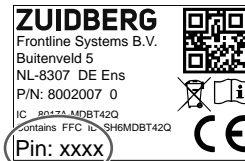

Figure 5
Setting the engagement speed does not require an internet connection or an account. A smartphone or tablet and the PIN code on the controller (see Fig. 5) can be used to connect to the controller via Bluetooth. Switch on the tractor ignition. Once connected, follow the steps below:
- Step 6: enter the PIN code (see Fig. 5).